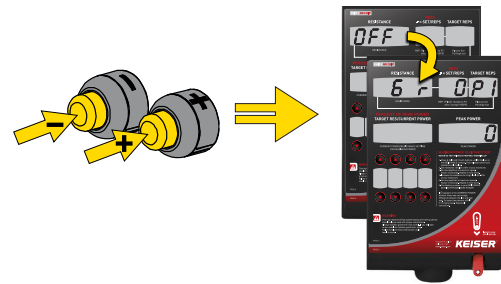

Figure 9. Start Power Test Mode
1. Press and hold both Thumb Buttons (+/-) for approximately three seconds until "6r" displays in the RESISTANCE window. Then, release the Thumb Buttons. NOTE: The current resistance will display and "P1" appears in the TARGET REPS (see Figure 9).